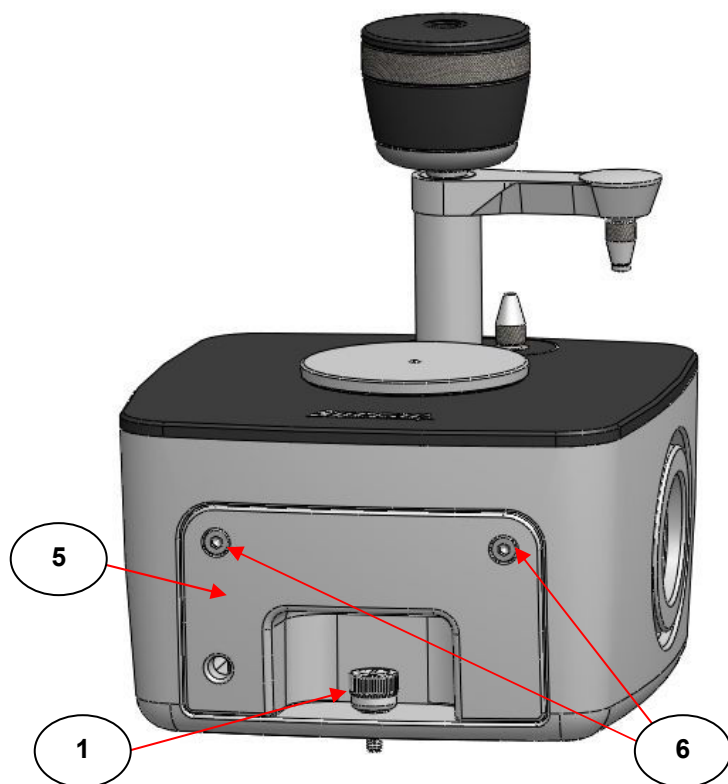

Fig 5. Quest ATR to show for Front Cover Plate removal
With a Quest ATR crystal puck assembly in position on the optical unit and when this completed assembly is installed in the spectrometer on an appropriate Benchmark™ baseplate, the Quest ATR accessory can be finely aligned. The optical unit front cover plate (5) is removed by undoing the two captive cover plate screws (6) (see Fig 5.) using the 3mm ball driver supplied. The front cover plate (5) is pulled up and forward over the fixing thumb screw (1) for its removal to gain access to the internal mirrors for adjustment.
When the front cover plate (**5**) has been removed (see Fig 5.) to gain access to the internal **M1, M2, M3** and **M6** flat mirrors frame assembly, the mirrors **M1, M3** and **M6 only** in the optical unit can be adjusted for **rotation** and **tilt** for alignment, to optimise the light throughput of the Quest ATR Accessory for your spectrometer system.